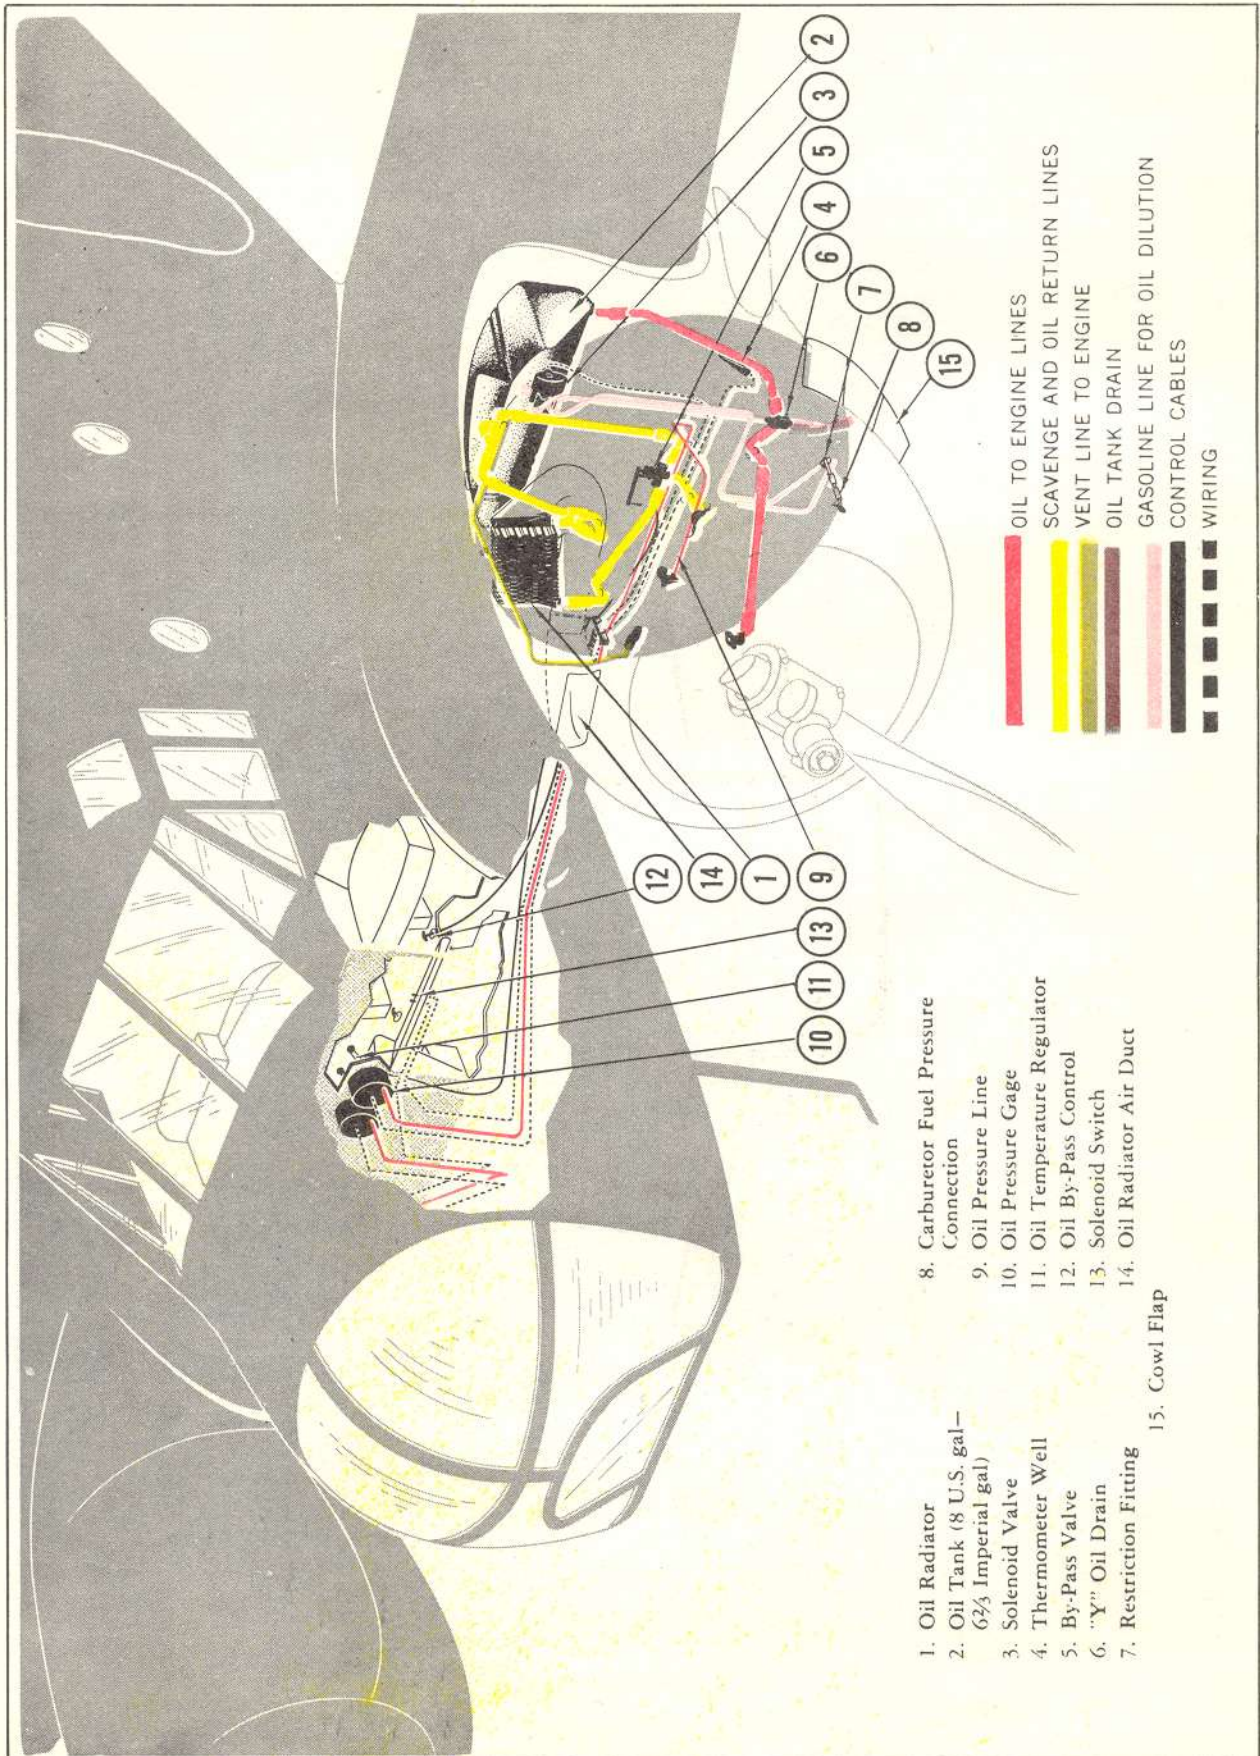

Figure 4—Oil System Diagram, AT-11 and SNB-1
e. OIL SYSTEM. (See figure 4.)—Oil is carried in two hopper tanks, one in each nacelle, of 8 U.S. (6 $\frac{2}{3}$ Imp.) gallons capacity each. Oil dilution equipment for cold-weather starting is provided. For quick warm-up and temperature control in extremely cold weather, air intake for each oil temperature regulator is equipped with a butterfly valve operated from pilots' control pedestal. Each oil system is also equipped with an oil cooler bypass, manually operated, by means of which the oil may be bypassed around the cooler in very cold weather.